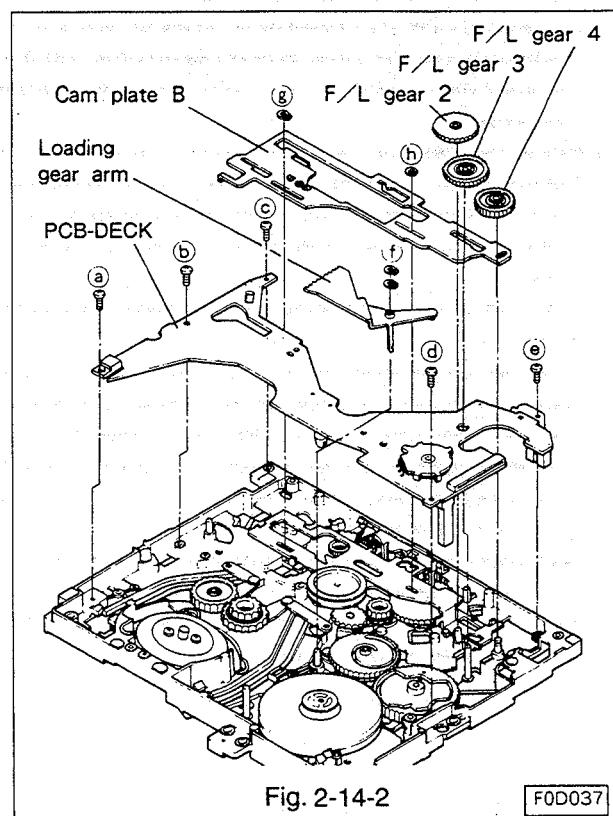
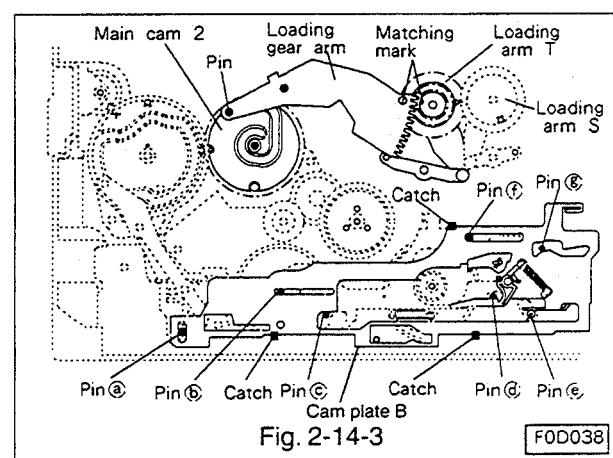

Fig. 2-14-2
Fig. 2-14-3
- C. Detach two grip rings **f** shown in Fig. 2-14-2 and remove the loading gear arm.
- E. Unfasten the catches and remove the F/L gear 2, 3 and 4.(Refer to Fig. 2-14-2.)
- F. Remove grip ring **g** and cut washer **h**, and unfasten three catches shown in Fig. 2-14-3 to remove the cam plate B.(Refer to Fig. 2-14-2.)
- G. Unscrew five fastening screws(**a** ~ **e**)and remove the PCB-DECK.(Refer to Fig. 2-14-2.)
- I. Make certain that the mode switch is in the eject position. Fasten the PCB-DECK assembly with five screws and solder the FE head terminals.(Refer to Fig. 2-14-2 and 2-14-1.)